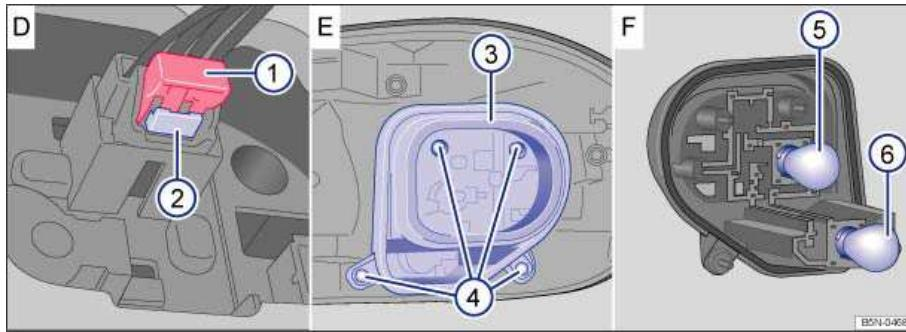

Fig. 210 Removed tail light: Removing the bulb holder and replacing the tail light and brake light bulb 3 or turn signal bulb 4.
8. Remove the red locking mechanism ⇒ **fig. 210 (1)** **D** as illustrated and disconnect the electrical connector with the lever **(2)** **D** pressed down.
13. Insert the bulb holder in the tail light and screw it in ⇒ fig. 210 E.
15. Insert the electrical connector into the bulb holder until it clicks into place. Press the red locking mechanism ⇒ fig. 210 \(1\) D back in.